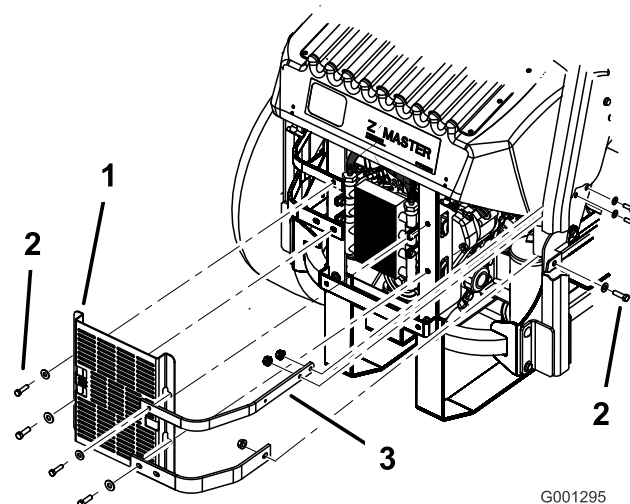

Figure 71
3. Remove the 4 bolts holding the oil cooler shield to the rear frame (Figure 71).
4. Remove the 3 bolts holding the engine straps to the side of the machine (Figure 71).
12. Install the oil cooler shield and engine straps to the rear frame with the 4 bolts previously removed (Figure 71).
13. Install the engine straps to the side of the machine (Figure 71).